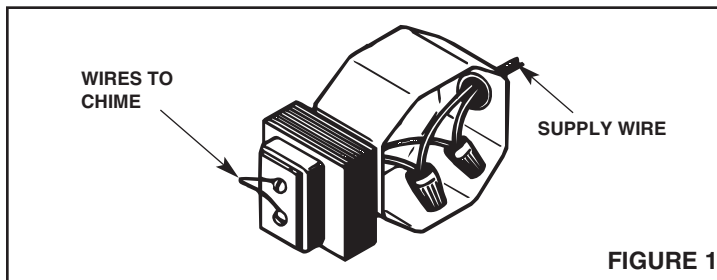

FIGURE 1
2. Refer to Figure 1. Mount transformer to a conveniently located junction box. Do not mount transformer in attic.